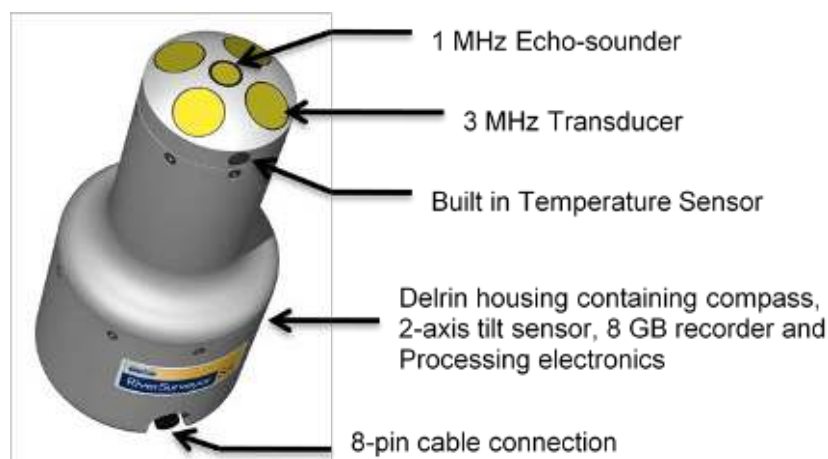

Figure 1. S5 ADP Features
- S5** (Figure 1): This portable, 5-beam ADP with a velocity profiling range of 0.2 to 5.0 m is ideal for use in shallow channels. The S5 has a 5-inch (13-cm) diameter Delrin housing that narrows to 3.2 inches (8.1-cm). It has four 3.0-MHz velocity measurement transducers in a Janus configuration. A 1.0-MHz vertical acoustic beam (echo sounder) provides depth data.